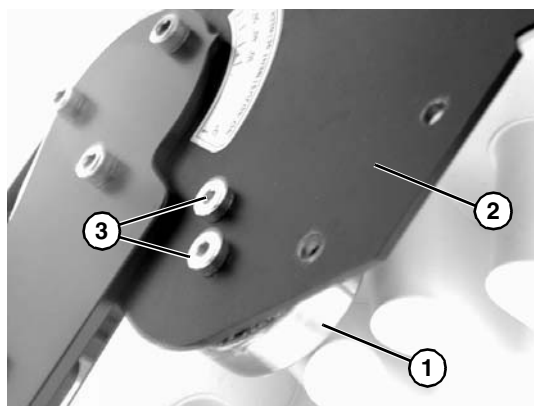

Figure 33
5. If equipped, install return roller bearing (**Figure 33, item 1**) into knuckle plate (**Figure 33, item 2**) using screws (**Figure 33, item 3**).